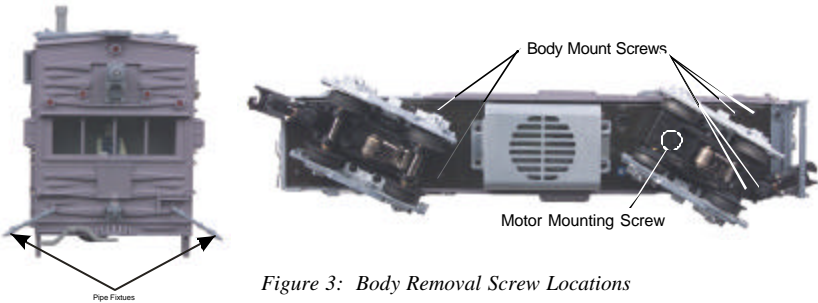

Figure 3: Body Removal Screw Locations
1. To access the gear box, remove the cab from the chassis by unscrewing the chassis screws as seen in Figure 3, then remove the pipe fixtures from the pilot and lift the cab from the chassis.
2. Once the cab is removed, remove the motor by unscrewing the black Phillips motor mount screw located on the underside of the drive trucks (see Fig. 3).